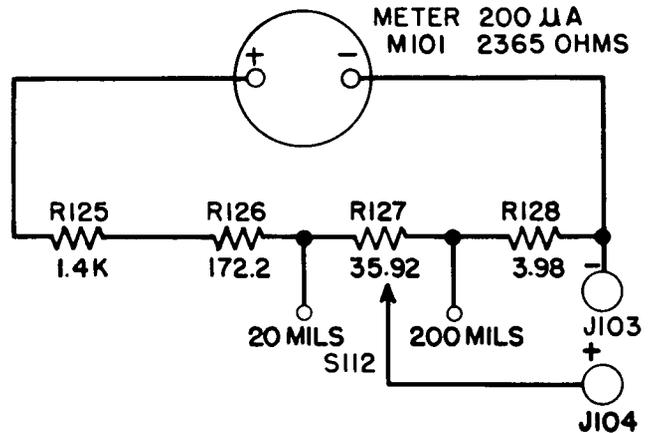

Figure 2-13. Simplified Milliammeter Circuit
(1) A standard ac voltage is applied across the capacitor connected to J103 and J104, through resistor R135 or R136, depending on the range selected by MASTER switch S112.
(2) The voltage drop across the series resistor, either R135 or R136, is measured by the meter, which is calibrated directly in microfarads.
d. MILLIAMPERES. (See Figure 2-13)
(1) The milliammeter, as shown in Figure 2-13 is of the conventional type and will measure up to 200 mils in two ranges, 0-20 and 0-200.
(2) To avoid possible damage to the meter always use the highest range first.